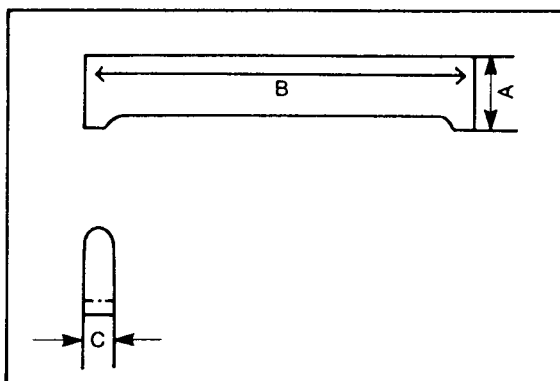

Figure 18
- (1) Measure height, length and width as shown in Figure 18. This will require two micrometers, a 0-25 mm and a 50-75 mm. Mark each apex seal to denote its position and location on the rotor. Measure as follows: